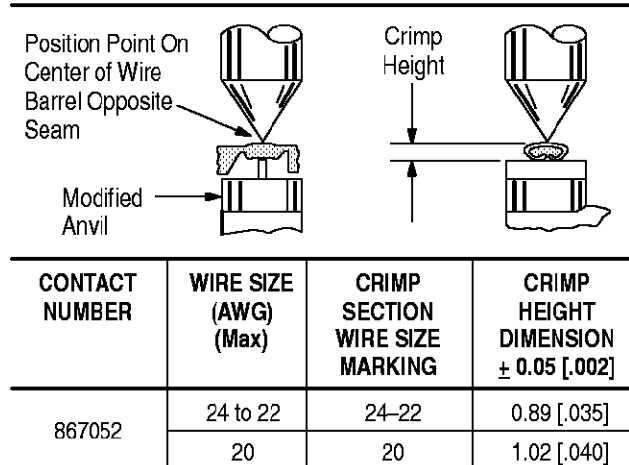

Figure 4
This inspection requires the use of a modified micrometer with a modified anvil and spindle, as shown in Figure 4. AMP recommends the Crimp Height Comparator RS-1019-5LP which can be purchased from:
3. Using a crimp height comparator, measure the wire barrel crimp height as shown in Figure 4. If the crimp height conforms to that height, the tool is considered dimensionally correct. If not, the tool must be returned to AMP for evaluation and repair. See Section 6, REPLACEMENT AND REPAIR.